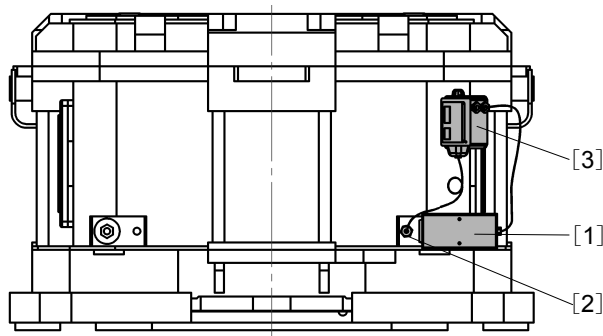

Figure 28: Oil heater ML..V..N gear units
- The oil heater consists of 3 basic parts (→ Figure 28)